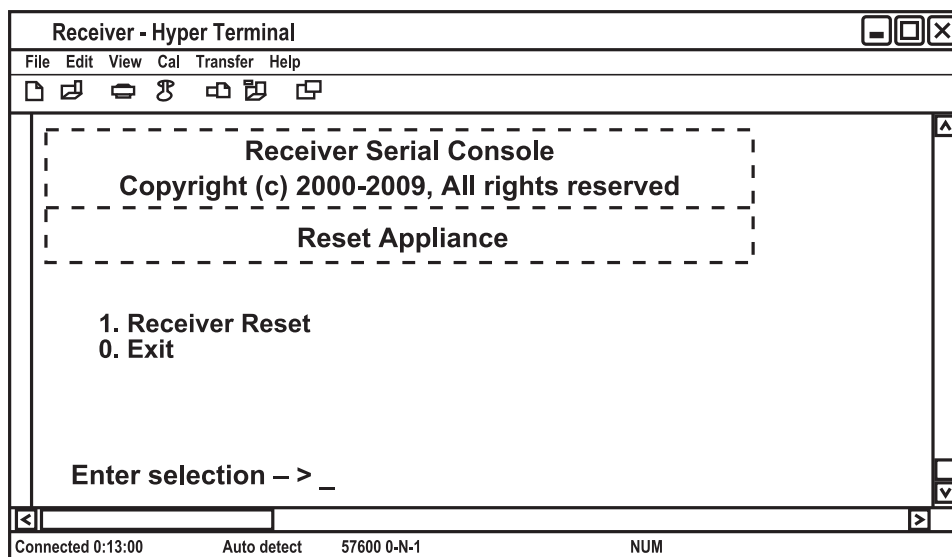

Figure 4-26. Receiver Reset Appliance Menu.
4. Press "1" and "Enter" to access the Receiver Reset menu (see Figure 4-26) to initiate the reset. A message will be displayed on the serial menu that states Resetting appliance. During reset, the connection to the transmitter is dropped. When the reset is complete, you will be automatically returned to the Appliance Selection Menu. The connection to the transmitter will be automatically restored.